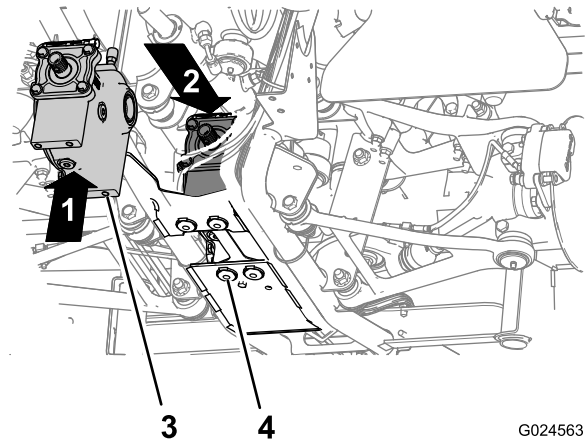

Figure 27
3. Align the holes in the bottom of the differential with the holes in the isolators and mount plate that you installed in steps 1 and 2 (Figure 27).